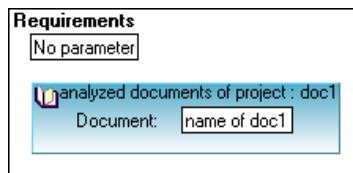

Figure 4-4. Inserted Name of Doc1 Element
17. Select the **doc1»Identification information»name** element and drag the element to the right of the `Document:` text element, as shown in Figure 4-4.